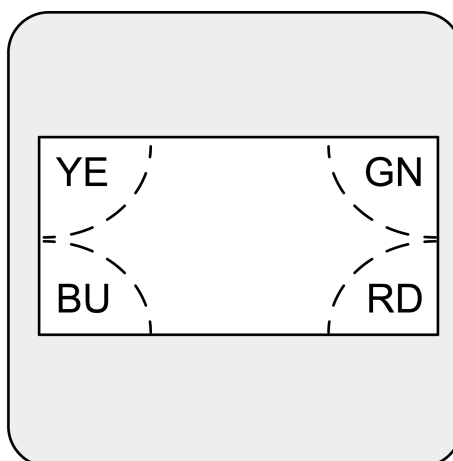

Figure 8: Status LED
Behind the sensor window (4) there are status LEDs for indicating different states of operation (figure 8).